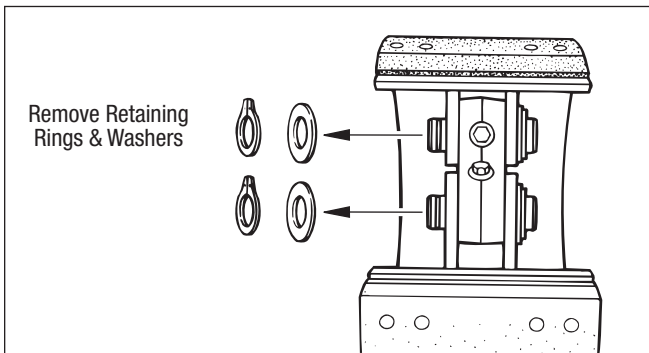

Figure 23 – Retaining Ring and Washer Removal
3. Remove the retaining ring and washer from the drum side of each anchor pin. Refer to Figure 23.